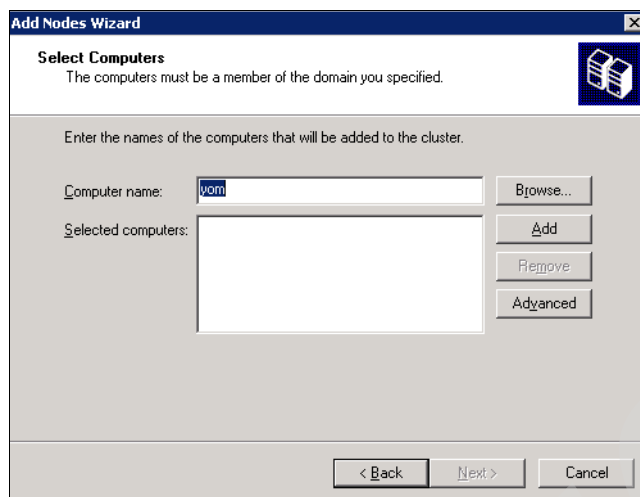

Figure 25-41 Select Computers
7. In the Computer Name field, enter the computer name of your second node (Figure 25-41), click **Add**, and then **Next**.